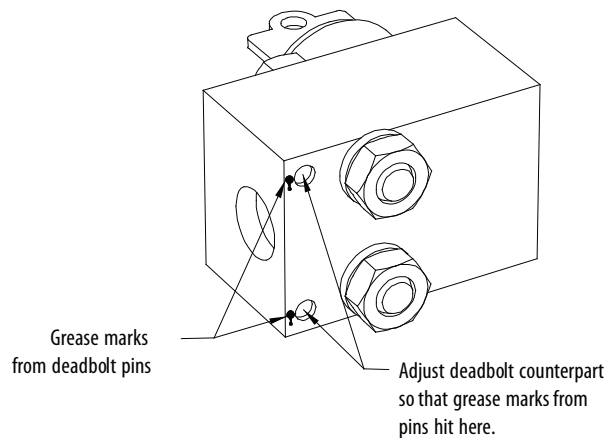

Figure 252 - Deadbolt assembly mounted to door
4. Bolt the cabinet door closed so the pins on the dead bolt counterpart make contact with the deadbolt assembly. Doing so should leave two marks of torque sealant or grease on the assembly where the pins made contact (see Figure 252 on page 252).